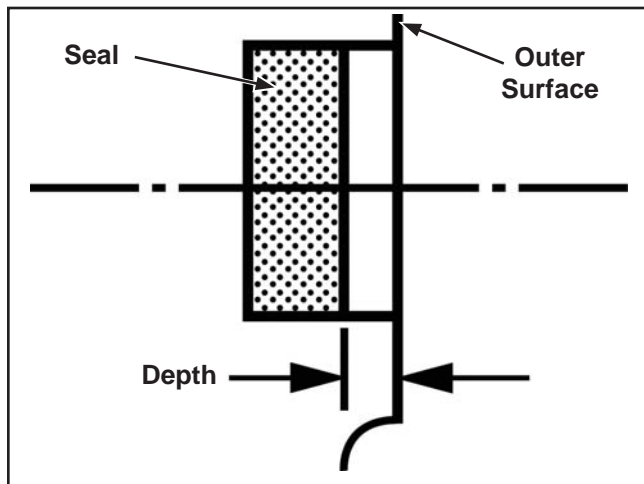

Figure 11-3. Closure Plate Oil Seal Installation Depth.
- Using an appropriate seal driver, install the oil seal into the closure plate to the depth specified below. See Figures 11-3 and 11-4.